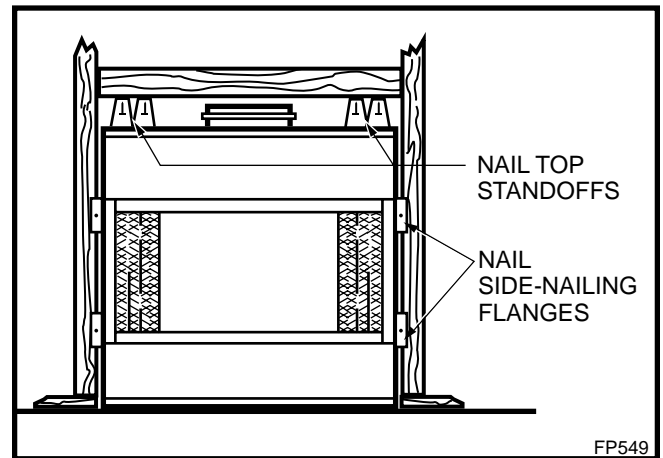

Fig. 15 Fasten fireplace in position. FP549
Four (4) nailing flanges are supplied with the fireplace (found on the fireplace hearth). To level the box and secure it firmly in place, remove the nailing flanges from the hearth and install at the sides of the fireplace as shown in Figure 15.